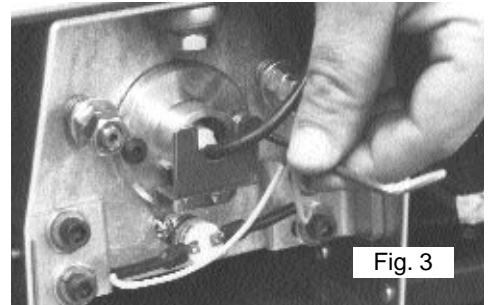

Fig. 3
3. Using a 1/8" allen wrench, loosen the two allen screws located on either side of the lamp support bracket. (See Fig.3)